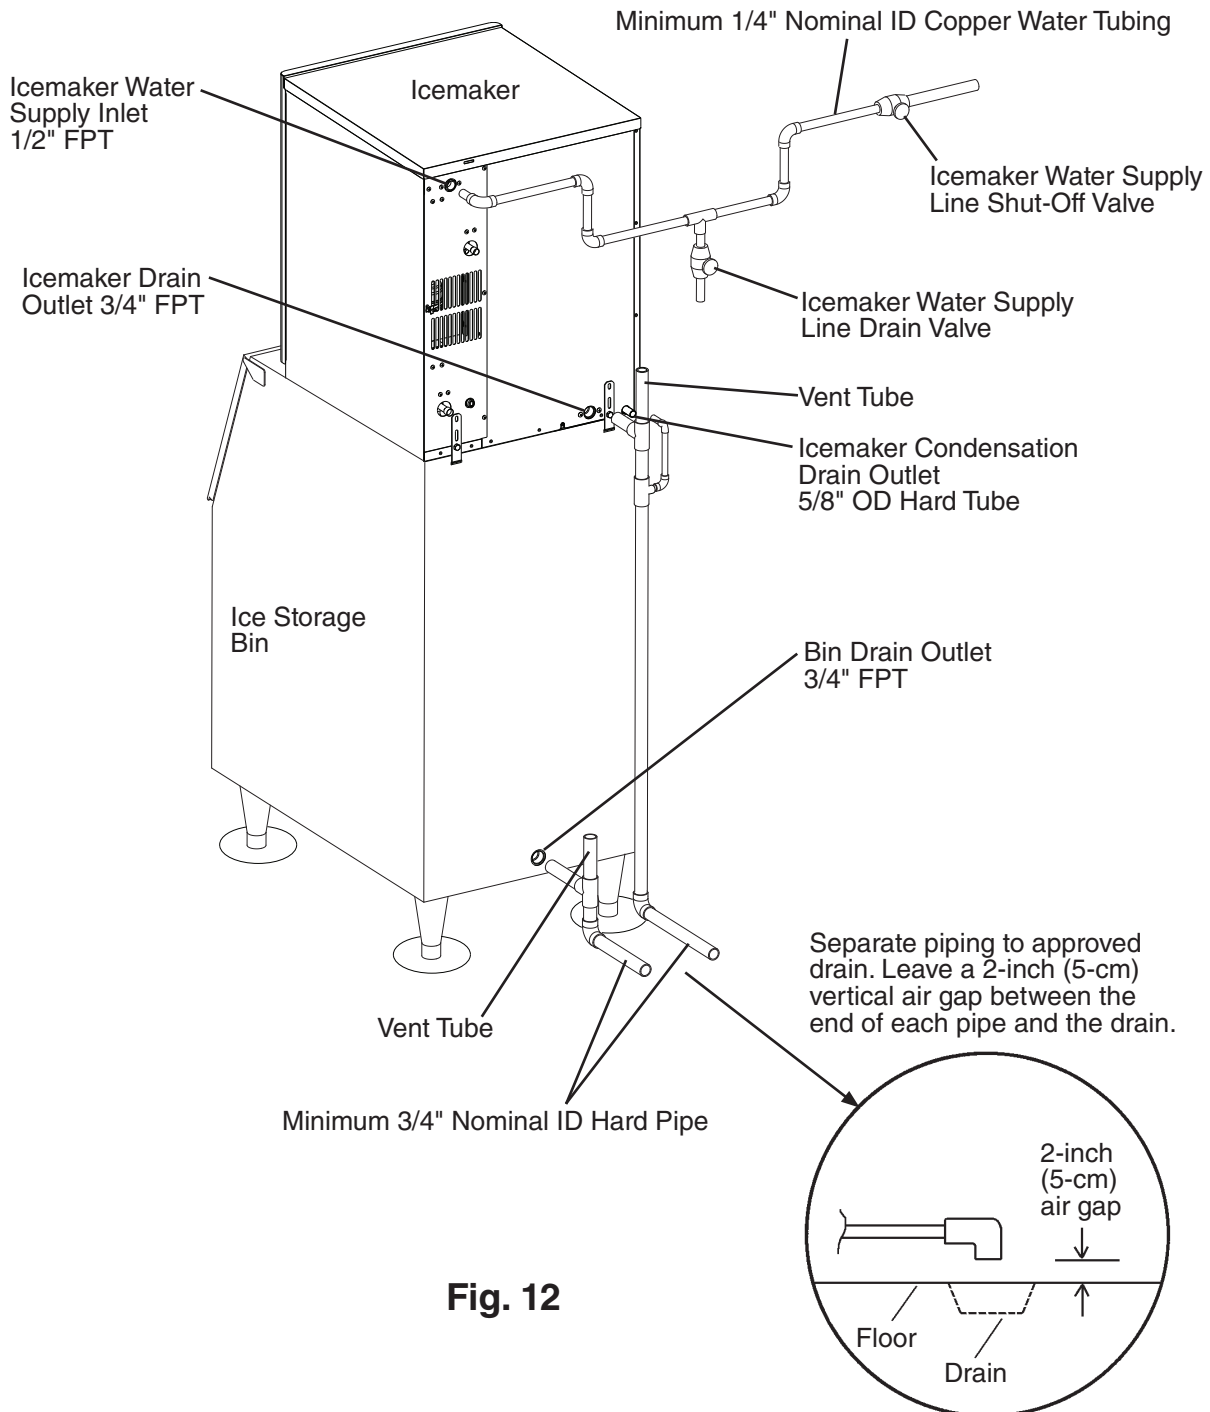

Fig. 12
See Fig. 12
- Drain lines should not be piped directly to the sewer system. An air gap of a minimum of 2 vertical inches (5 cm) should be between the end of the drain pipes from the icemaker and dispenser unit/ice storage bin and the floor drain. See Fig. 12.